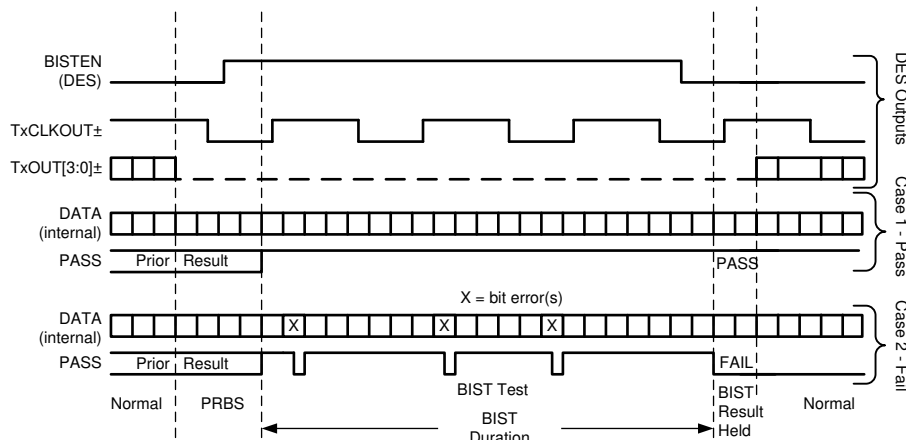

Figure 29. BIST Waveforms, in Conjunction With Deserializer Signals
Step 4: The link returns to normal operation after the deserializer BISTEN pin is low. Figure 29 shows the waveform diagram of a typical BIST test for two cases. Case 1 is error free, and Case 2 shows one with multiple errors. In most cases, it is difficult to generate errors due to the robustness of the link (differential data transmission and so forth), thus they may be introduced by greatly extending the cable length, faulting the interconnect medium, or reducing signal condition enhancements (Rx Equalization).